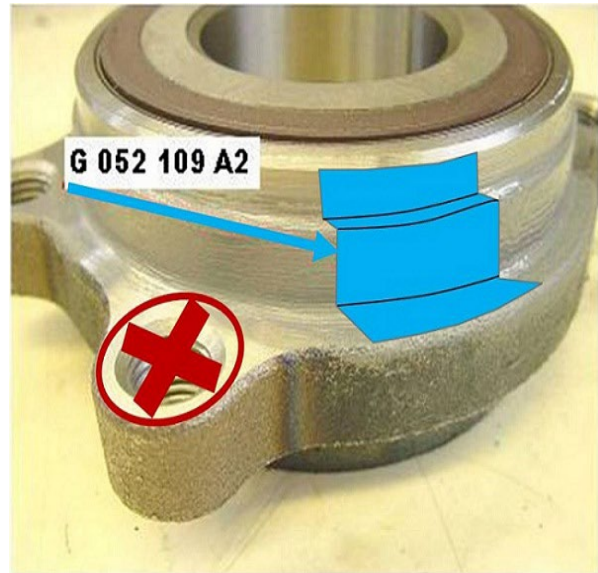

Figure 1. Area to apply the paste.
2. Using a brush, apply a thin coat of paste part number G 052109A2, using about .21 ounces or 6 grams (roughly 1/20) from the tube on the wheel bearing housing as shown (Figure 1). Make sure not to apply any paste on the threads.